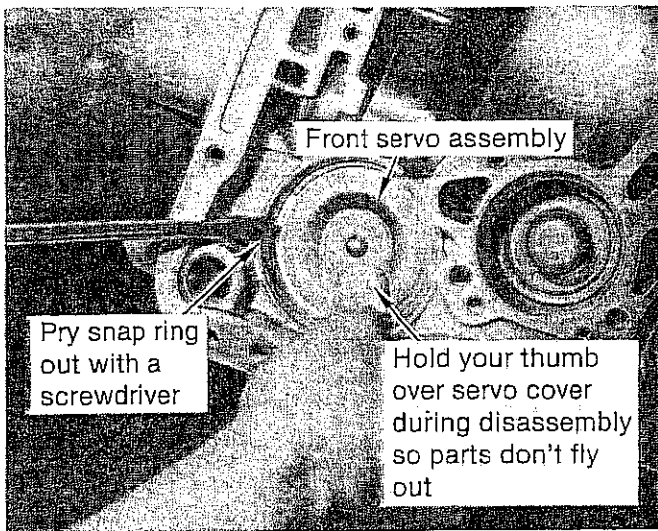

FIGURE 21
STEP 13. Remove the kickdown assembly. (See Fig. 21) Remove the snap ring with a screwdriver. There is some spring tension underneath the cover so hold your hand over the cover so it doesn't fly out. Remove the cover, one or two return springs, apply rod and piston. Inspect servo cover to determine type 1 or type 2 completely.